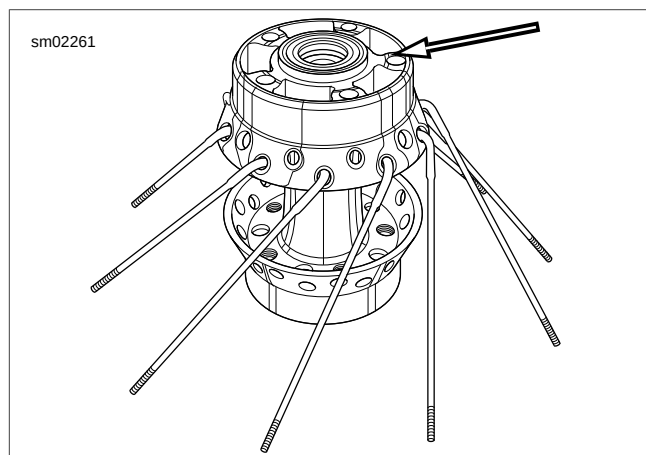

Figure 2-21. Hub: Primary Brake Disc Side Up
1. See Figure 2-21. Place the hub on table with primary brake disc side up. Insert a spoke in each hole of the **lower** row. Angle spokes clockwise.